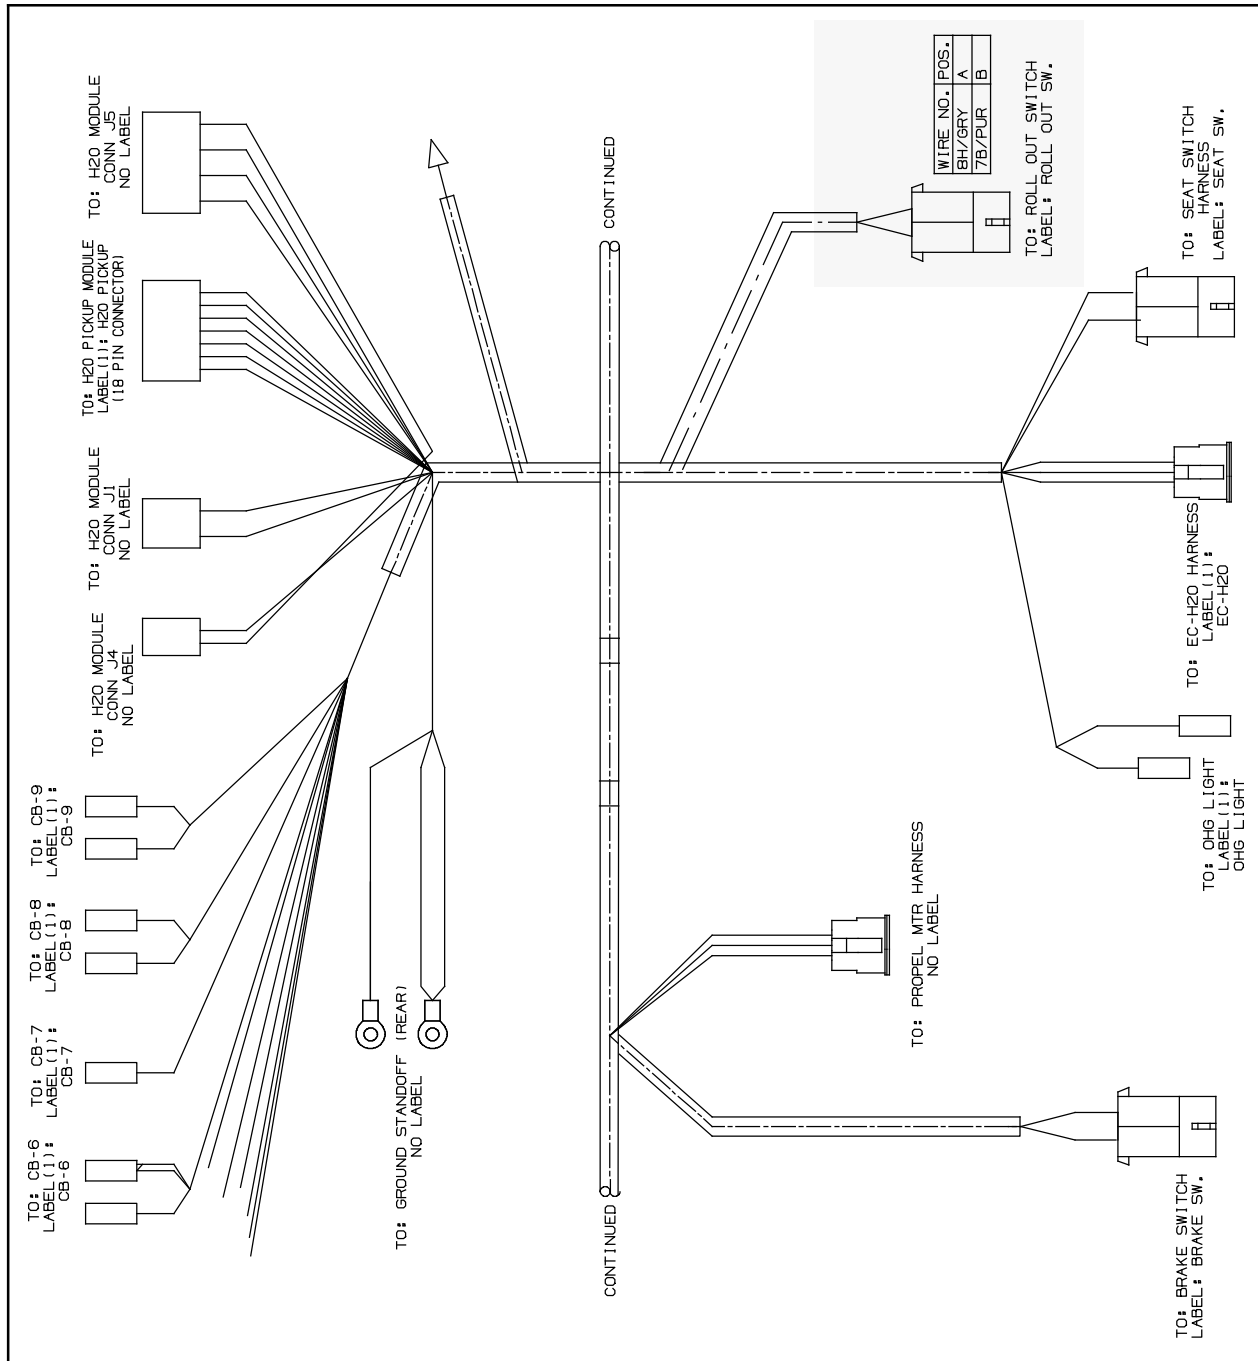
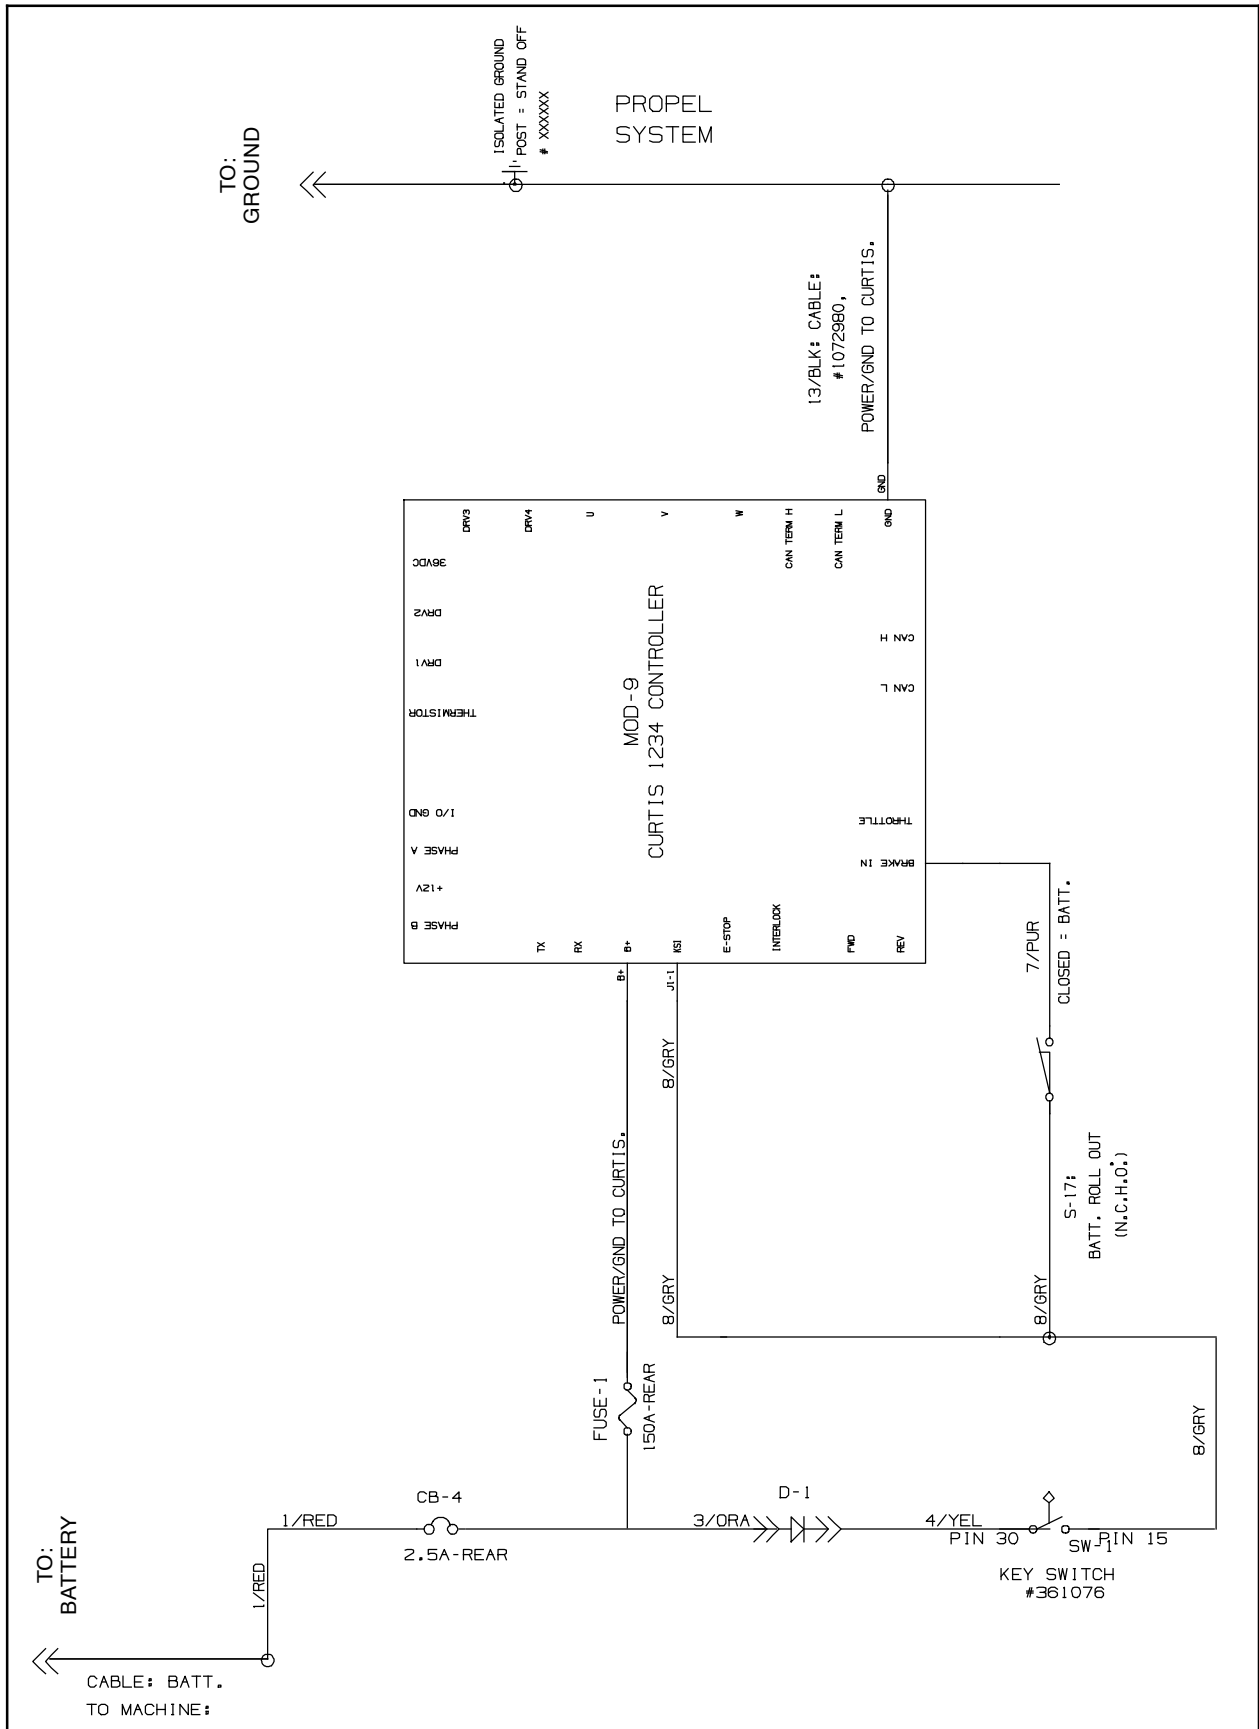

FIG. 3
FIG. 4
6. Connect the main wire harness to the rollout battery limit switch (14). (Fig. 3 / Fig. 4)